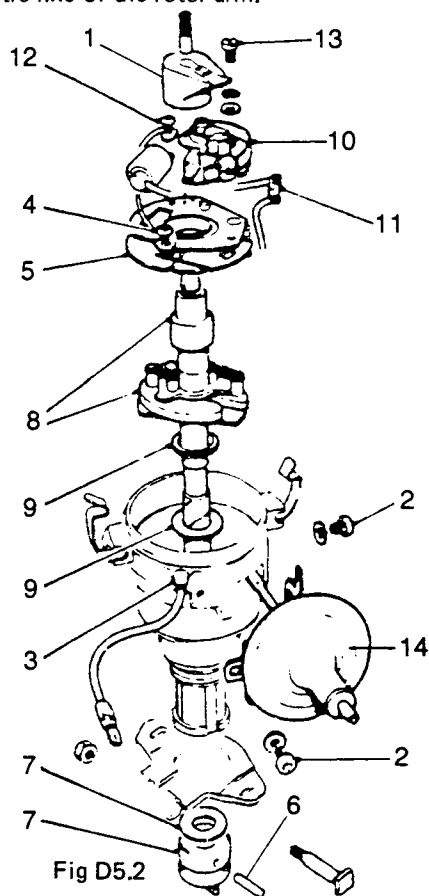

Fig D5.2
- (4) Refer to Fig D5.2. Remove the rotor arm (1).
- (5) Remove the cam oiling pad.
- (6) Remove the two screws (2) retaining the vacuum unit (14), noting that two prongs protrude downwards from the base plate and straddle one of the retaining screws. Disengage the operating arm from the movable plate and remove the assembly.
- (7) Push the grommet and low tension lead (3) through the body towards the inside of the housing.
- (8) Remove the base plate retaining screw (4).
- (9) Lever the base plate (5) from its retaining groove in the body.
- (10) Remove the base and bearing plate assembly (5).
- (11) Drive out the parallel pin (6) retaining the drive dog.
- (12) Remove the drive dog and thrust washer (7) noting that the raised pips on the washer face the drive dog.
- (13) Remove the centre spindle complete with the automatic advance weights and springs (8).
- (14) Remove the steel washer and nylon spacer from the spindle (9).